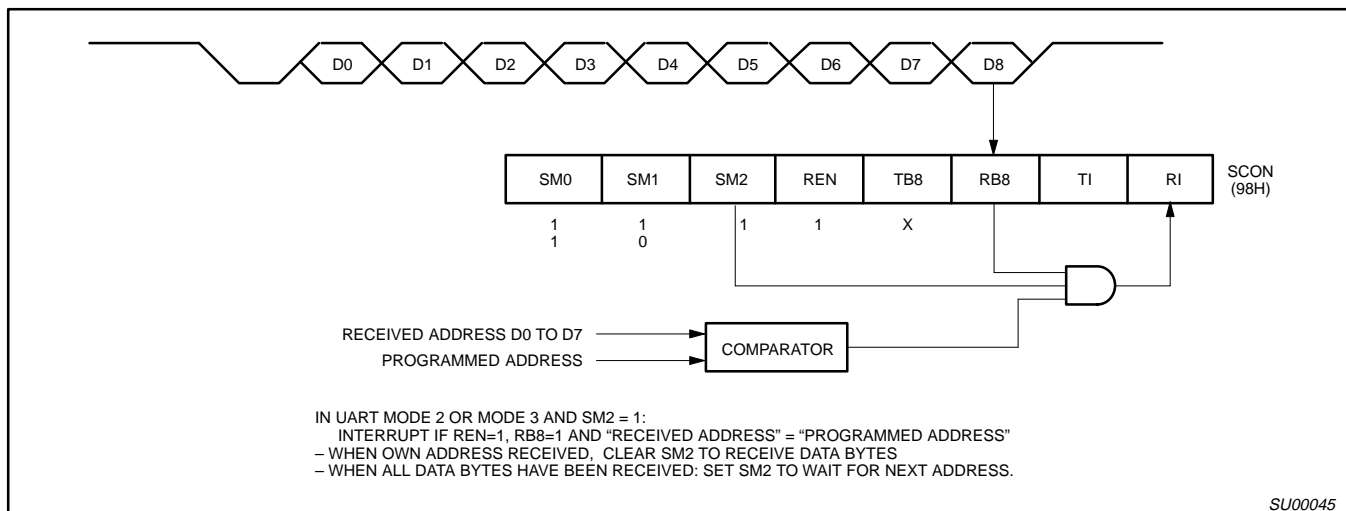

Figure 17. UART Multiprocessor Communication, Automatic Address Recognition
Automatic Address Recognition is a feature which allows the UART to recognize certain addresses in the serial bit stream by using hardware to make the comparisons. This feature saves a great deal of software overhead by eliminating the need for the software to examine every serial address which passes by the serial port. This feature is enabled by setting the SM2 bit in SCON. In the 9 bit UART modes, mode 2 and mode 3, the Receive Interrupt flag (RI) will be automatically set when the received byte contains either the "Given" address or the "Broadcast" address. The 9 bit mode requires that the 9th information bit is a 1 to indicate that the received information is an address and not data. Automatic address recognition is shown in Figure 17.